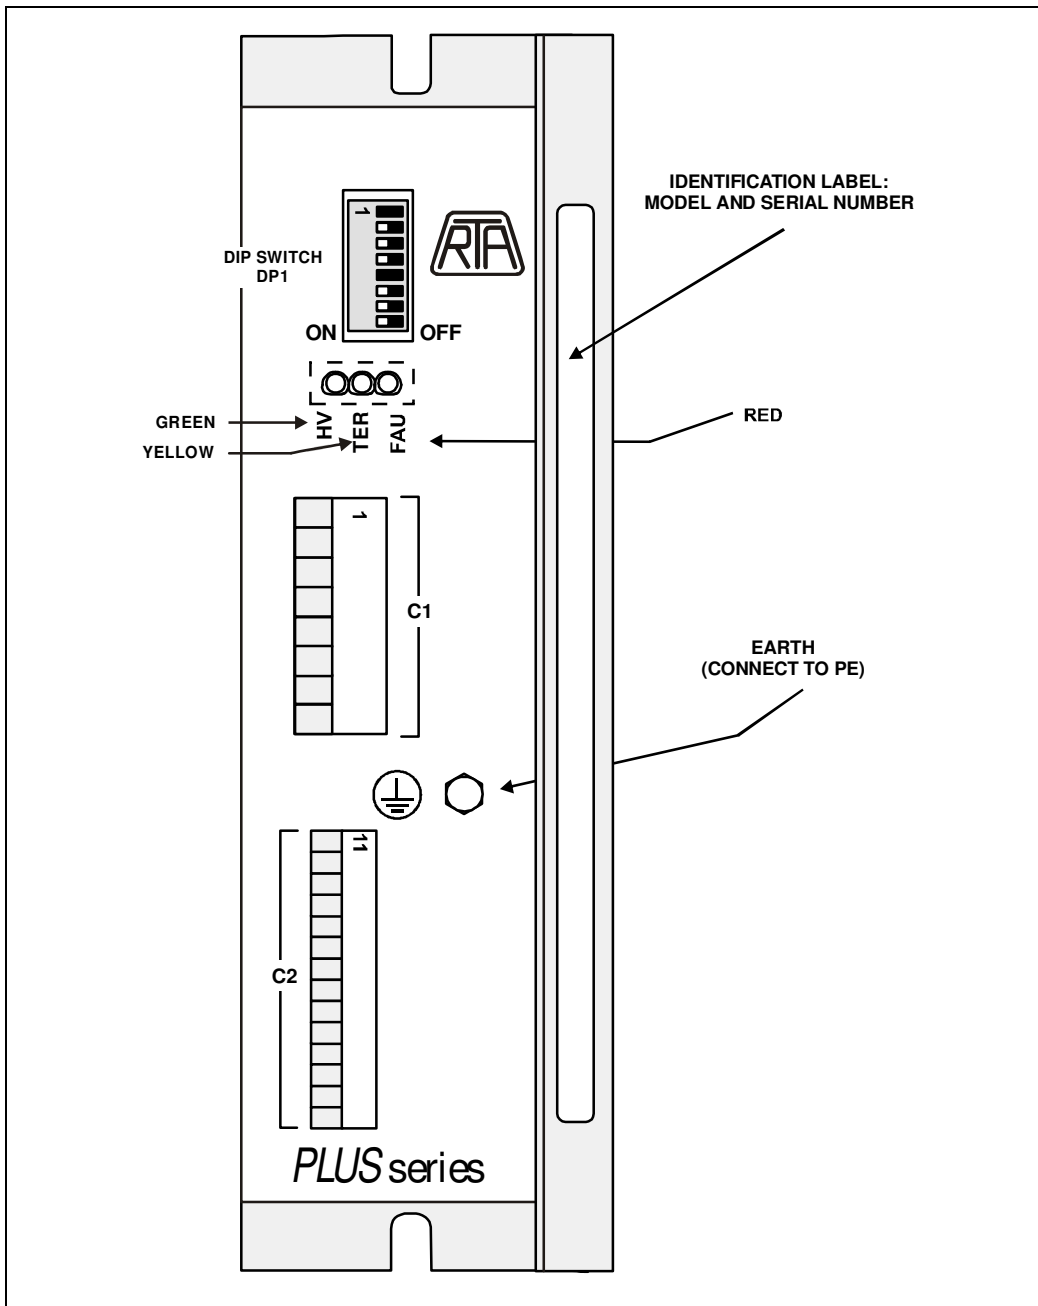

Fig. 4 – Dip-switch DP1, alert led and connectors.
- 6.2- Fig. 4 shows the position of DIP-SWITCH DP1, alert LED, connectors and labels on the case.